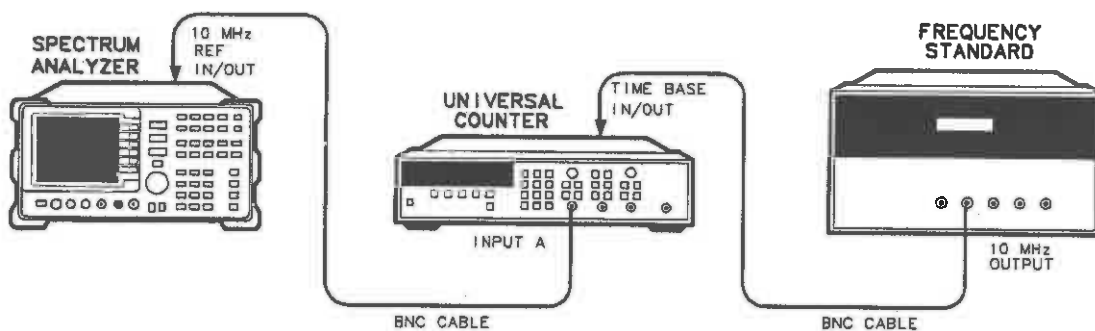

Figure 3-2. Frequency Reference Accuracy (Option 003) Test Setup
1. After a 60 minute cool-down with power off, connect the equipment as shown in Figure 3-2.
10. Connect the equipment as shown in Figure 3-2.